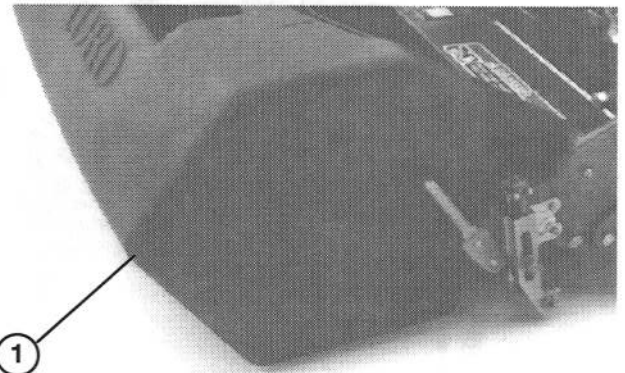

Figure 15
1. Grasp basket by top rear lip and slide onto the basket mounting rods (Fig. 15).